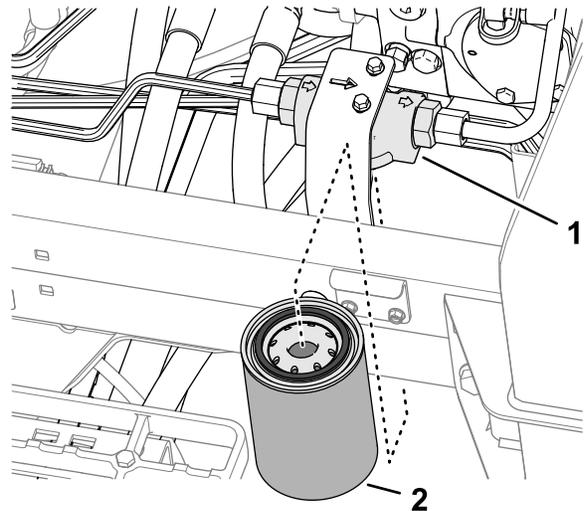

Figure 104
3. At the left side of the machine, align a drain pan under the charge filter (Figure 104).